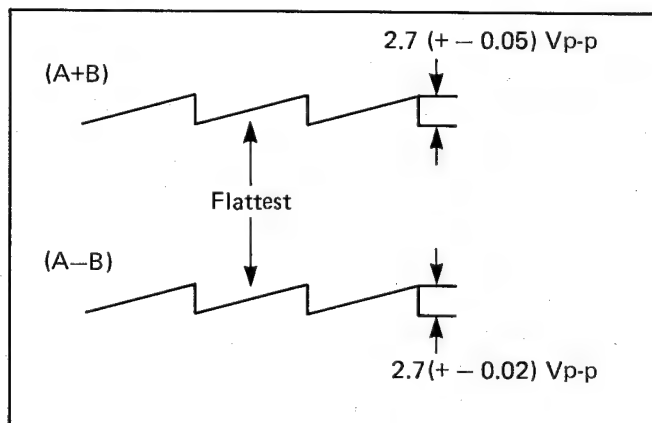

Fig. 5 A+B, A-B Signal Waveform
7. Then, adjust VR5102 (A+B SIGNAL OFFSET ADJ.) so that the waveform level is 2.7 (+ - 0.05) Vp-p. Adjust VR5103 (A-B SIGNAL OFFSET ADJ.) so that the waveform level is 2.7 (+ - 0.02) Vp-p as shown in Fig. 5.